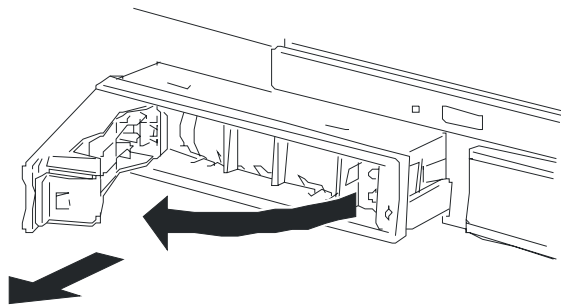

Figure 4-35. Removing a Hard Disk Drive
4. Grasp the handle of the hard disk's carrier and unlock the lever located at the bottom of the carrier handle, see Figure 4-35. The hard disk carrier will come out approximately 1/2-inch so that its handle is fully accessible in order to pull the carrier the rest of the way out of the bay.